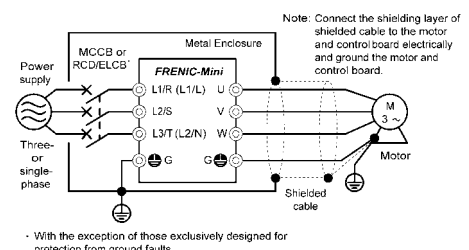

Figure3. Installing the Inverter into a Metal Enclosure
- (4) If noise from the inverter exceeds the permissible level, enclose the inverter and its peripherals within a metal enclosure as shown in Figure 3.